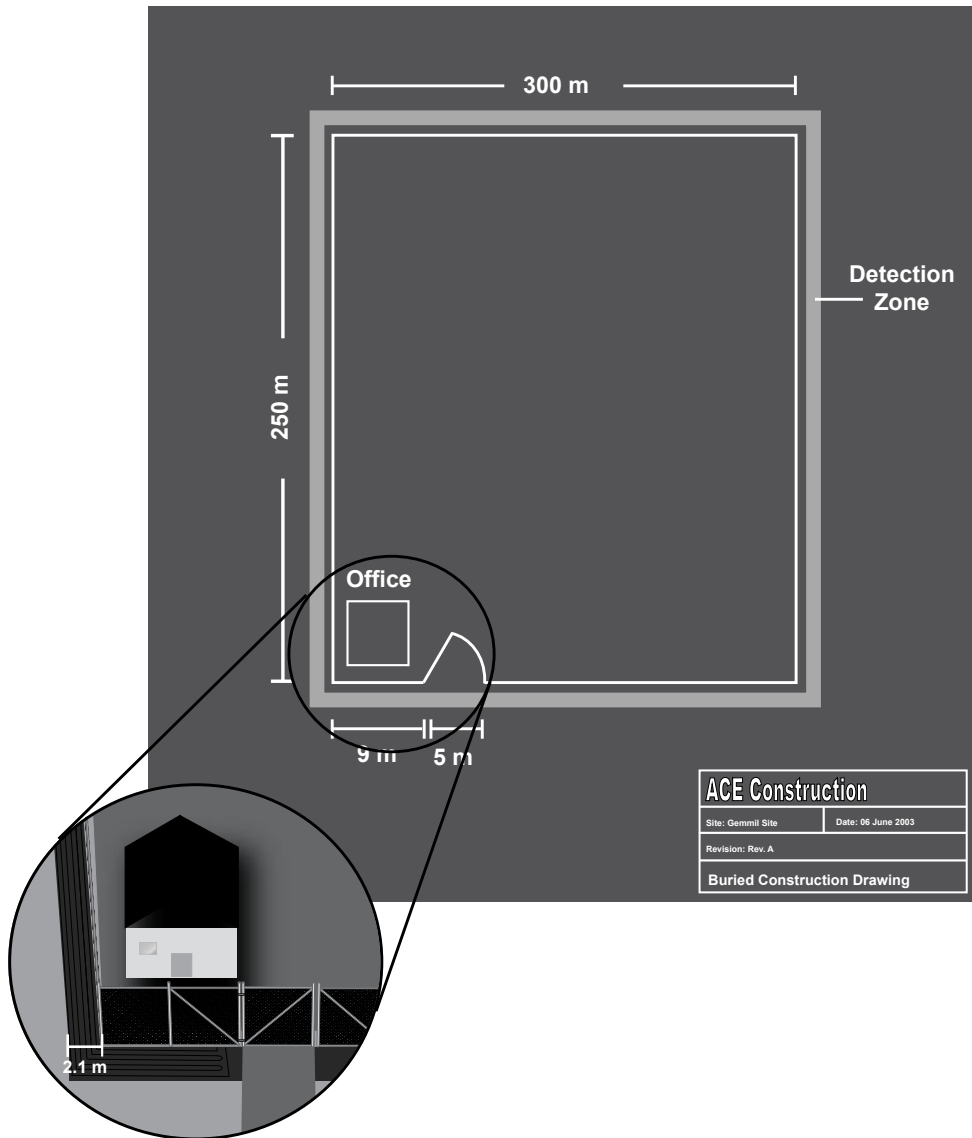

Figure 4-16: Buried application site drawing
Suppose a site measuring 300 meters (984 feet) by 250 meters (820 feet) needs to be protected by a buried cable. The medium in which the cable will be placed is sod. Because the cable will be buried in sod, the detection zone around the perimeter must be at least 2.1 meters (7 feet) in width (following the minimum recommended practice for sod outlined in Chapter 3 - see *Buried Cable Deployment Guidelines* for more information), requiring six passes of sensor cable (Figure 4-16). The area to be protected has a single gate measuring 5 meters (16.4 feet) across.
5. Determine the length of sensor cable required for each zone. Using Figures 4-16 and 4-17, the length for each zone in this example is figured out by calculating the length of the perimeter by the number of passes. The calculations for determining the sensor cable length in each zone comes out as shown in the example worksheet in Figure 4-18
6. The length of the insensitive leads must also be calculated. Based upon Figures 4-16 and 4-17, the total length of insensitive lead-in cable required for Zone 1 is 10 meters (2 leads are required for each zone). For Zone 2, the requirement is 20 meters.